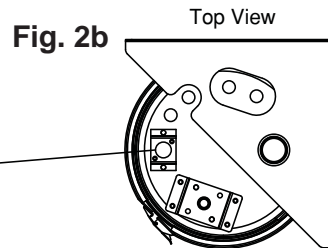

Fig. 2b
2.2 Water Tank Top View. Please see Fig. 2b.